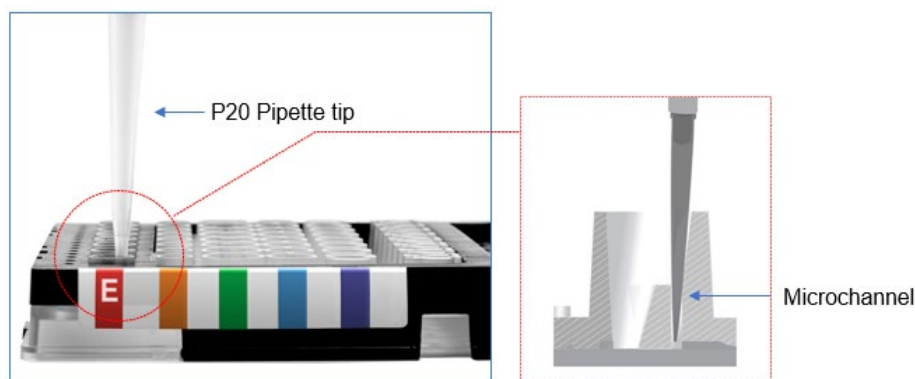

Figure 8. Recovery of any remaining RNA from the Extraction Well microchannel
- Using a P20 pipette set to 10 μ L, aspirate any remaining RNA or DNA extract from the microchannel on the right side of the Extraction Buffer well and combine with the extract from Step 2. See **Figure 8**.